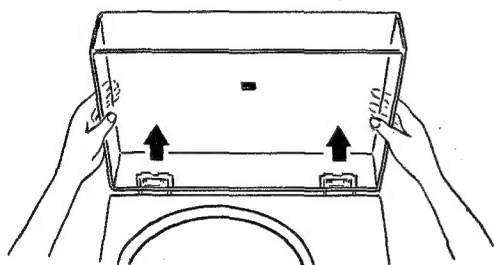

Fig. 2-1
1. Open the top cover, and then pull it up as shown in Fig. 2-1.